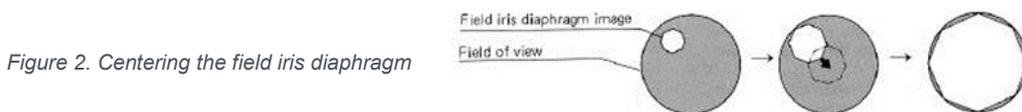

Figure 2. Centering the field iris diaphragm
- Centre the image using the two condenser centering knobs (Figure 2).